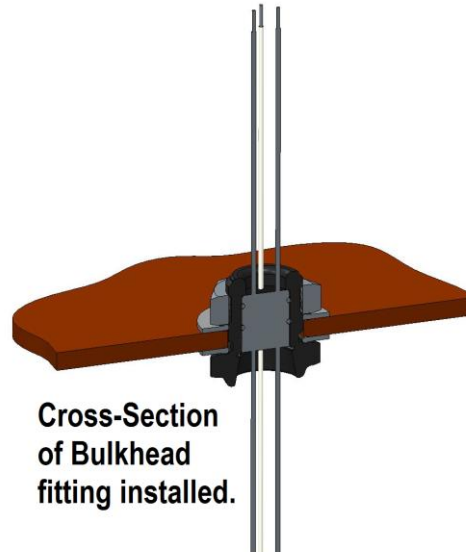

Figure 2
5. Hand-tighten the nut from the outside. Torque to 60-70 in./lbs. (**Figure 2**).